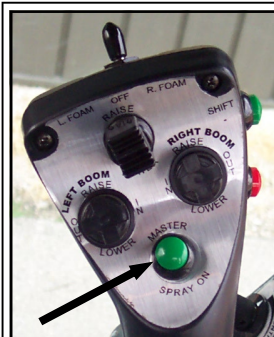

FIG. 52-3
**MAIN SOLUTION SWITCH**– Main spray power can be controlled from a switch on the hydrostatic lever (fig. 52-3). This controls the panel of boom solution valve switches. The main switch must be on to supply the individual switches with voltage. This allows you to turn all of the boom solution valves ON or OFF at the same time such as turning it OFF when you arrive at the end rows of a field and turning it back on when you re-enter the field. The individual switches allow you to turn the valves off separately.